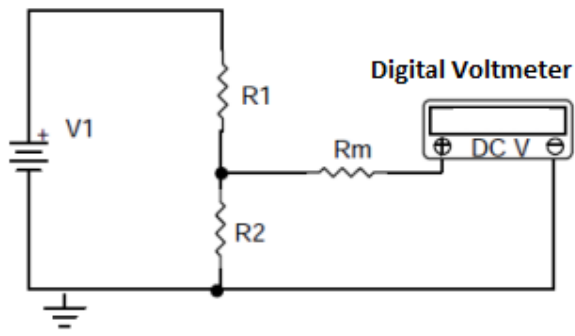

Figure 1
- 3) Construct the circuit in Figure 1 using 100k Ω Carbon Track resistors and $V_s=12V$. Use Multimeter to verified the voltage supply V_s . Measure the voltage accross R_2 using